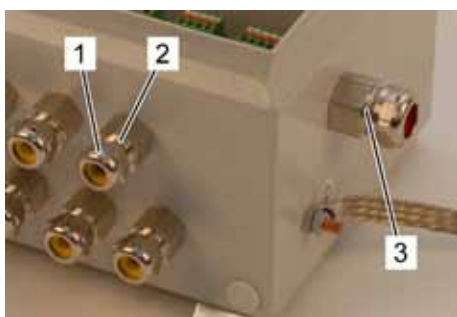

Fig. 57: Types of cable glands
4. Loosen the pressure screw of the cable glands (Fig. 57/1).
5. Guide the cables from the sensors through the smaller cables glands (Fig. 57/2) into the Terminal box.
6. Guide the bus cables (LT2004F0) through the bigger cable glands on the side (Fig. 57/3) into the Terminal box.